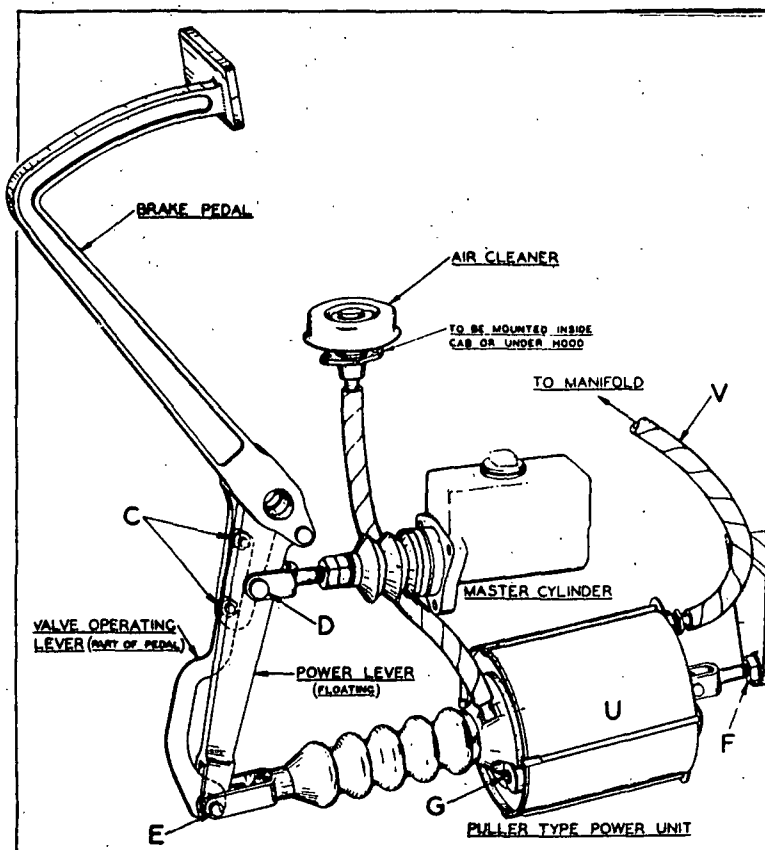
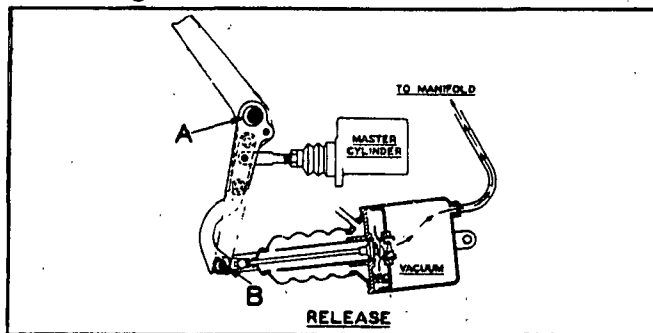
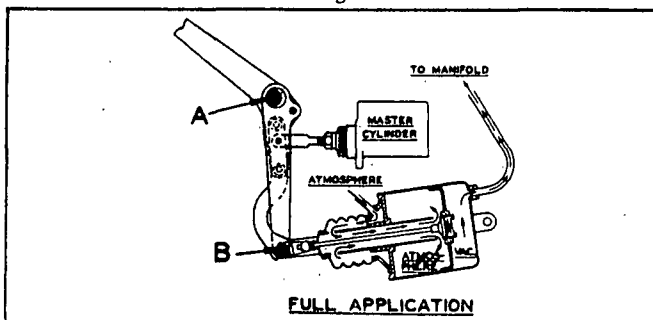

Fig. 3
Fig. 4
Fig. 5
vacuum when the brakes are in released position. Brake application is obtained by admitting atmospheric pressure to the rearward side of the piston (the piston rod end of the cylinder) without dumping a charge of raw air into the intake manifold. The vacuum line "V" connects the front of the power cylinder to the manifold (Fig. 3).
The valve operating the power unit is contained within the unit and is operated by a rod extending through the power unit piston rod to the valve operating lever (See Fig. 4 and 5).
From the remote air cleaner (Fig. 3 and Fig. 5), air enters the cylinder through a connection in the end plate dust cover holes in the hollow piston rod
You will note in examining the construction of the vacuum power unit (Fig. 4 and 5) that it is essential that about $5/32$ " travel specified for the valve rod is obtained in order that the valve may open the ports admitting air to the rear of the piston — $1/4$ " travel is required for full opening of the valve when clearance on power lever is all taken up at "A" (Fig. 5).
When the operator releases the pressure on the brake pedal the valve is positively moved to the release position by the valve lever attached to the brake pedal. This closes the air passage to the rear side of the piston and opens a passage across the piston, thus restoring the vacuum balance on both sides of the piston (Fig. 4).
The valve operating lever is attached to the brake pedal by two cap screws "C" (Fig. 3) with an over-size hole at the bottom cap screw to permit adjustment. It is *absolutely necessary* that in the brake release position the clearance (about $1/32$ "), between the shaft hole in the power lever and the pedal shaft *must be* on the forward side of the shaft (opposite to the master cylinder) as shown at "A", "Release" Fig. 4.
bushing, as shown at "B", Figure 4, Release.
1. Loosen valve lever anchorage screws "C" (Figure 3), remove master cylinder and piston rod clevis pins "D" and "E" (Fig. 3). Be sure that leverage system is clean and in correct alignment, with no binding. Then, block brake pedal in release position. Be sure that clearance between power lever and pedal shaft is at the front side of the shaft, as shown on "A" (Fig. 4).
4. Be sure that piston rod clevis pin "E" is against sidewall of valve link bushing as shown at "B" (Fig. 4), "Release." Then tighten valve lever adjustment screws "C". Be sure that valve lever fork is *central and square on valve rod bushing to avoid binding*.
1. Remove the pipe plug "G" (Fig. 3) at rear of cylinder and connect a vacuum gauge.
Every 6000 miles remove the pipe plug "G" (Fig. 3) in the rear end of the power unit and lubricate with two ounces of Vacuum Cylinder Oil, after which the pipe plug should be replaced. At every chassis lubrication spray the valve and power lever linkage with light oil.